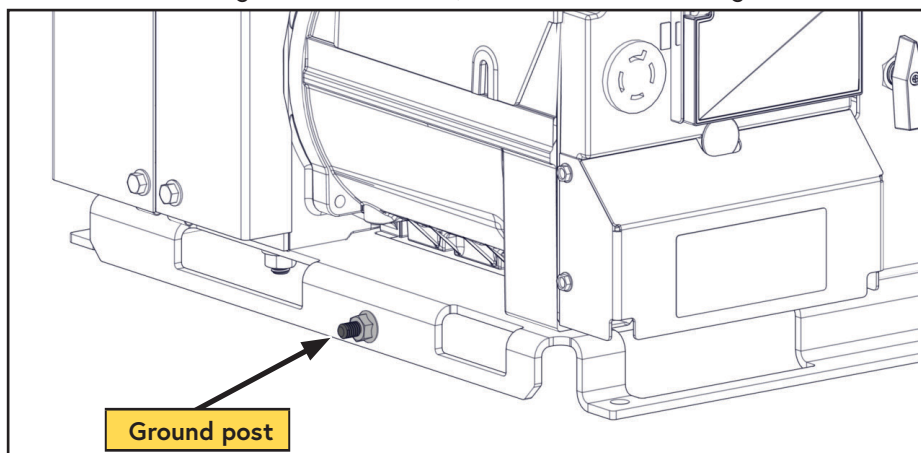

Figure 6 — Connect ground wire
- Connect a ground wire with a minimum size of 10 AWG to the ground terminal located on the engine side of the unit, next to the air outlet (Figure 6).